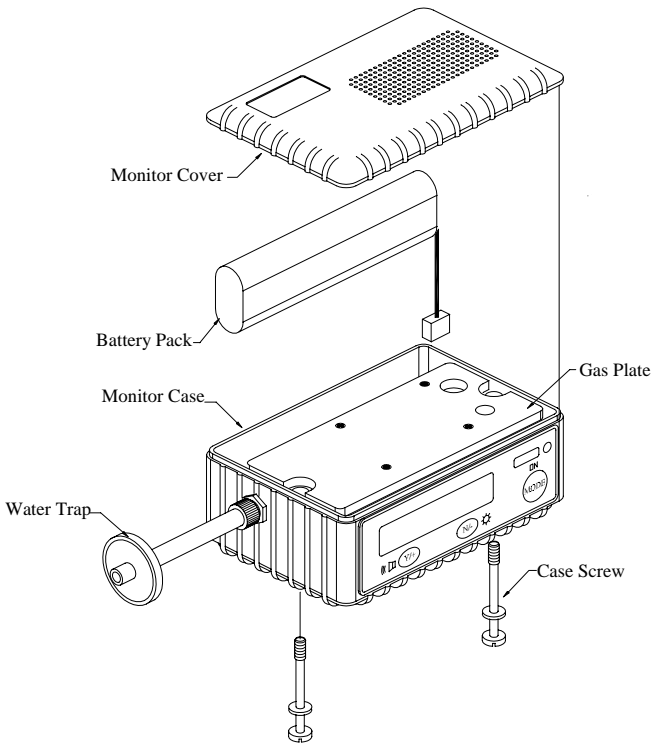

Figure 7-1 Main Components of Q-RAE
As shown in Figure 7-1, the major maintenance items of Q-RAE are:
2. Refer to Figure 7-1, unscrew the two captured case screws from the bottom of the monitor case and remove the Q-RAE cover.
2. Refer to Figure 7-1, open the monitor cover by unscrewing the two captured screws from the bottom of the monitor case. **Disconnect the battery pack.**